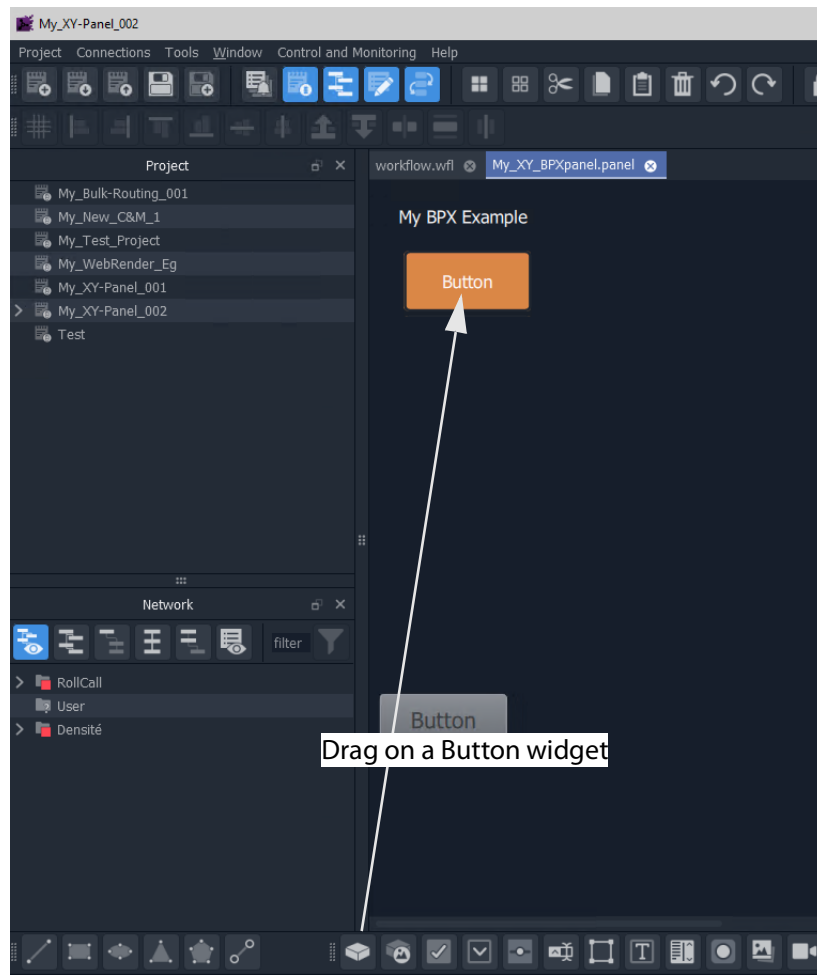

Fig. 6-49: Add a Button Widget
- 2 Add a graphical **Button** widget to the panel. (See Figure 6-49.)